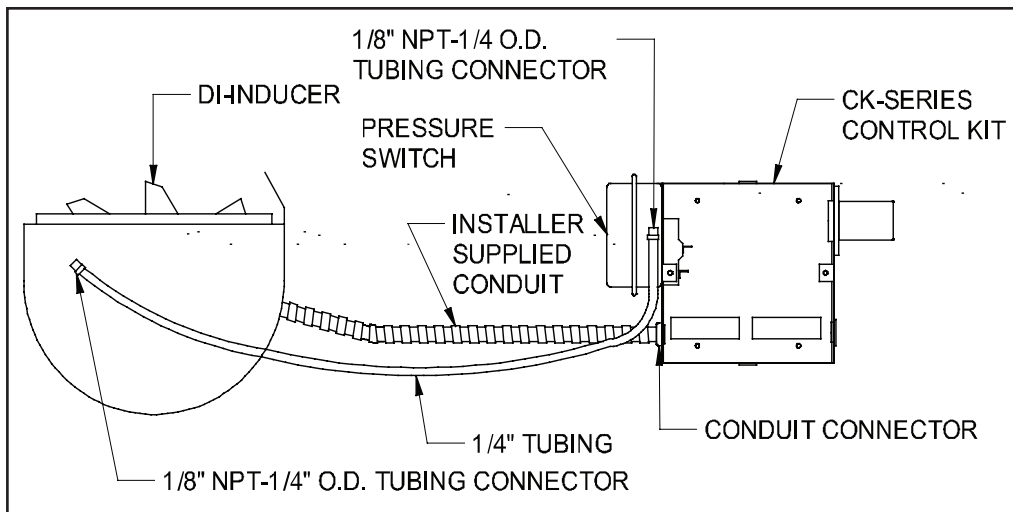

Figure 3
2. Route the tubing to the CK-Kit junction box and connect the tubing to the pressure switch. (See Figure 3)